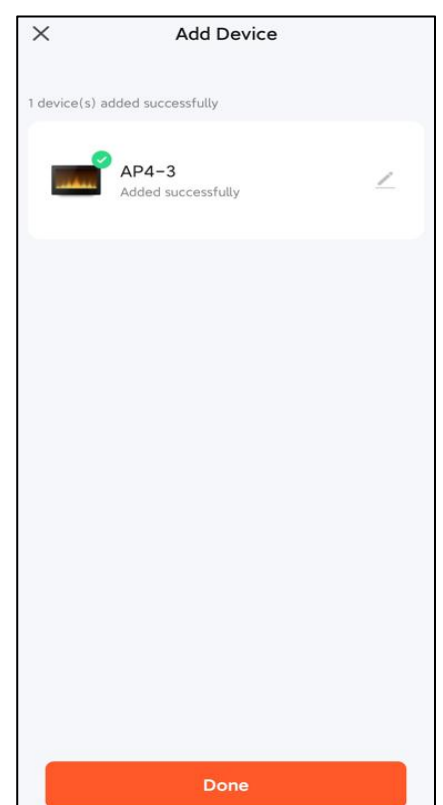

FIG.7
5. Touch “Done” to finish Wi-Fi setting. (FIG.7)